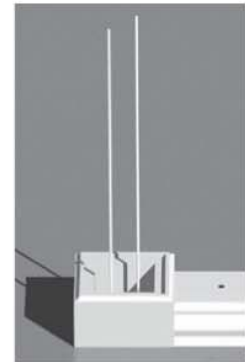

FIGURE 6A
**A)** Install and tighten the two 3/8" - 16 x 39" THREADED RODS into the STEEL BASE PLATE assemblies (Fig. 6A).